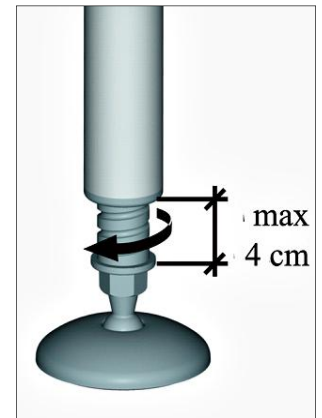

Fig. 4
8. By rotating the thread plug (D) the pole can be locked in place (max. 4 cm). (Fig. 4.)